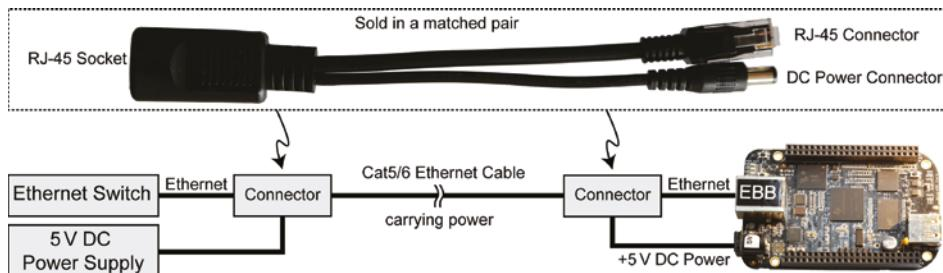

Figure 11-23: Adafruit pseudo-PoE cable
- **Use a pseudo-PoE cabling structure:** Adafruit sell a *Passive PoE Injector Cable Set* (~\$6), illustrated in Figure 11-23, for which you can use a regular 5V mains supply to inject power into the unused twisted pair wires and then draw that power at the other end of the cable. You can use the crimp tool that is described in Chapter 4 to terminate the DC power connector with a DuPont connector so that it can be attached to the Beagle board GPIO header. **Do not connect such cables to a true PoE switch!**
One problem with the arrangement in Figure 11-23 is that the 5V supply voltage will drop as the cable length increases due to the impact of cable resistance. Recently, low-cost network switches have become available that offer PoE functionality. *Power extraction modules* (PEMs) can be purchased to step down the 48V DC voltage that is supplied by these switches to lower, fixed DC levels (e.g., 3.3V, 5V, 12V). The low-cost (\$10–\$15) PEM that is used in this section is the PEM1305 (tiny.cc/ebb1103), which can be used to supply 5V to a Beagle board. PoE (802.3af) switches can provide up to 15.4W of power per attached device. The IEEE 802.3af standard (IEEE Standards Association, 2012) requires that true-PoE devices support two types of PoE: